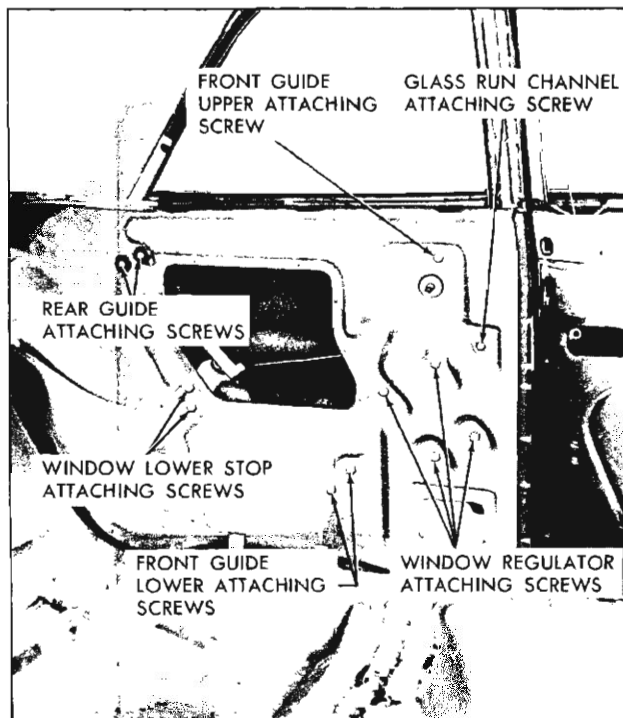

Fig. 68—Rear Quarter Hardware Attachment—1611 Styles—Electric
2. Remove access hole cover from inner panel. Loosen window front guide upper attaching screw. Remove window rear guide attaching screws and remove guide (fig. 68).
The upper front corner of the rear quarter window should seat properly in the front glass run channel through the complete window lowering and raising cycle. To accomplish this, loosen the front and rear guide attaching screws (fig. 68); then adjust the front guide forward and the rear guide upward and forward and retighten the attaching screws.
2. Remove rear quarter window glass run channel attaching screw (fig. 68). Carefully disengage glass run channel retainers from lock pillar and side roof rail and remove run channel.
3. Remove front guide upper and lower attaching screws (fig. 68). Disengage guide from roller on window lower sash channel; move front guide assembly rearward between panels sufficiently to allow upper end of guide to be started out through large access hole; then remove guide assembly.
3. Remove rear guide attaching screws (fig. 68).
2. Remove access hole cover from inner panel. Remove front guide upper attaching screw and glass run channel attaching screw (fig. 68).
5. Remove window regulator attaching screws (fig. 68). Disengage regulator arm roller from window lower sash channel cam and remove regulator assembly through large access hole.